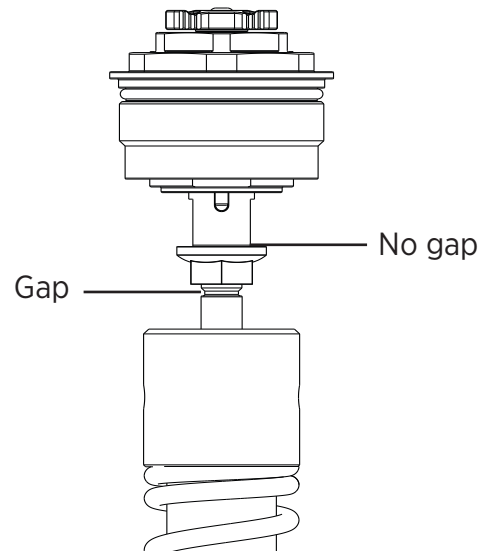

Fig. 18: Confirm there is a gap between the cinch nut and shaft shoulder, and no gap between the top cap and the cinch nut.
14. Use a 14 mm wrench to hold the top cap, and a 15 mm wrench to tighten the cinch nut against the top cap (Fig. 18). Ensure there is a gap between the cinch nut and shaft shoulder, and no gap between the top cap and cinch nut. Torque the cinch nut to 15 ft-lb.